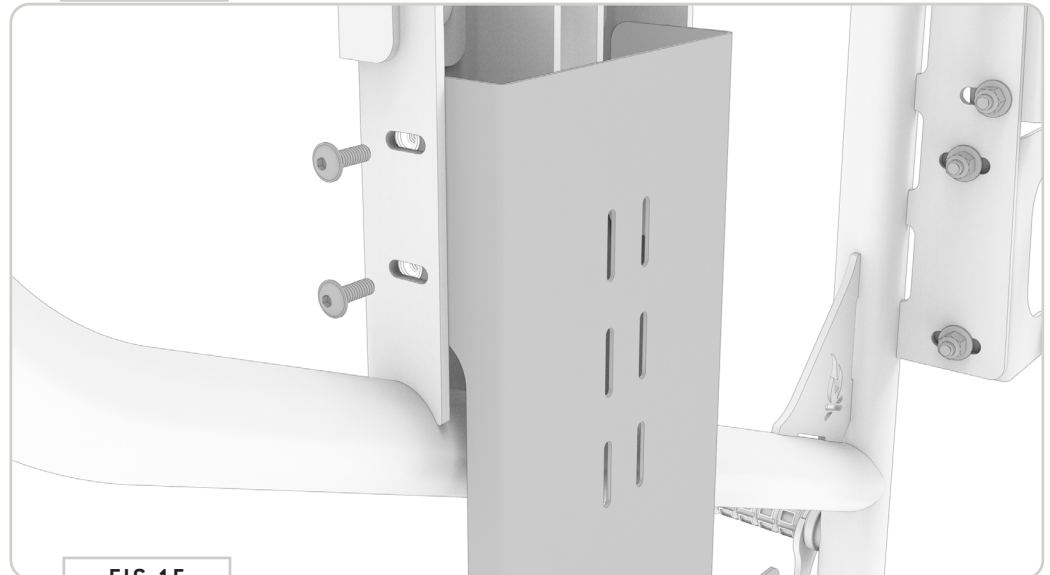

FIG 15
**NOTE -** There are multiple slots available on the License Plate Relocation Bracket to zip tie the wiring in place (FIG 15).